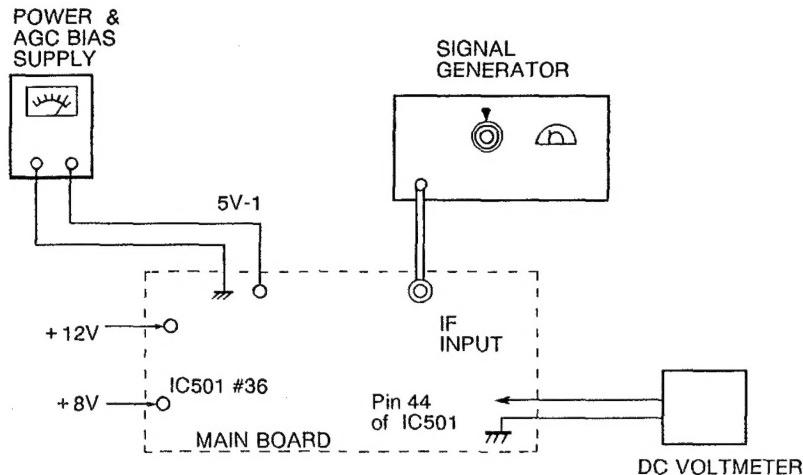

Figure 4. Picture IF Alignment
- GENERAL..... Refer to figure 4 for test equipment connection.
SIGNAL GENERATOR..... Connect to both leads of R101 with signal level of 75 dB μ , and open the solder-link at IF OUT of tuner on the Main Board. (See figure 4.)